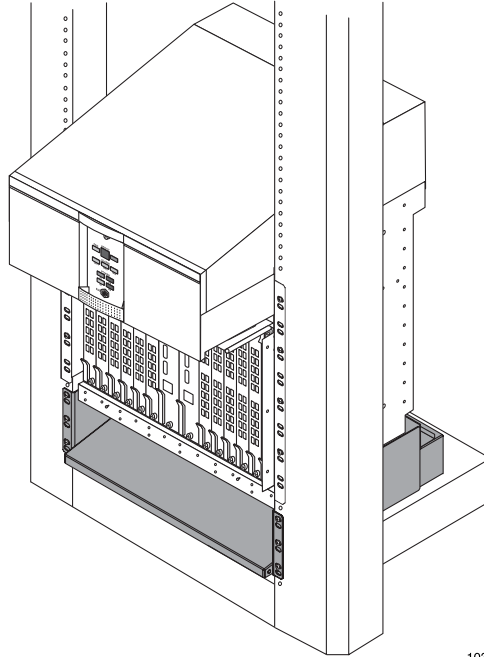

Figure 10 Positioning the Lower Air Ramp
1. Position the air ramp just below the SmartEdge 1200 chassis so that the screw holes in the air ramp mounting brackets are aligned with the screw holes in the rack just below the chassis; see Figure 10.